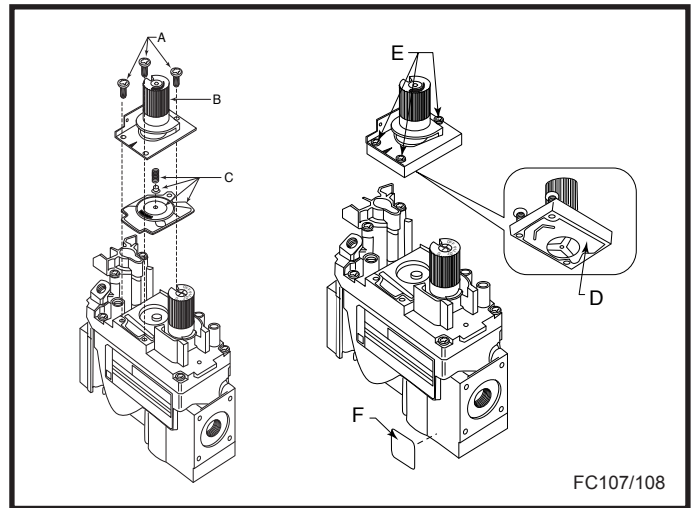

Fig. 62 Nova SIT820 Gas Valve.
8. **SIT 820 NOVA Gas Control Valve** (Fig. 62)
- a. Using a Torx T20 or slotted screwdriver, remove and save the three pressure regulator mounting screws (A), pressure regulator tower (B) and diaphragm (C).
- b. Ensure the rubber gasket (D) is properly positioned and install the new HI/LO pressure regulator to the valve using the new screws (E) supplied with the kit. Tighten screws securely. (Reference torque - 25 in.LB)
- c. Install the enclosed identification label (F) to the valve body where it can be easily seen.